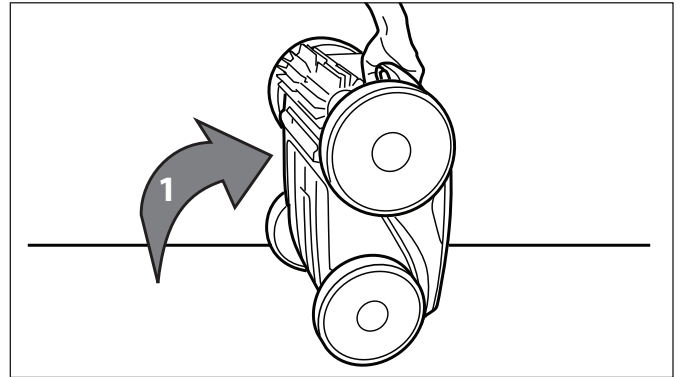

**Figure 30. Roll Cleaner onto Place on the Caddy**
2. Roll the unit into place onto the caddy. Refer to Figure 30.